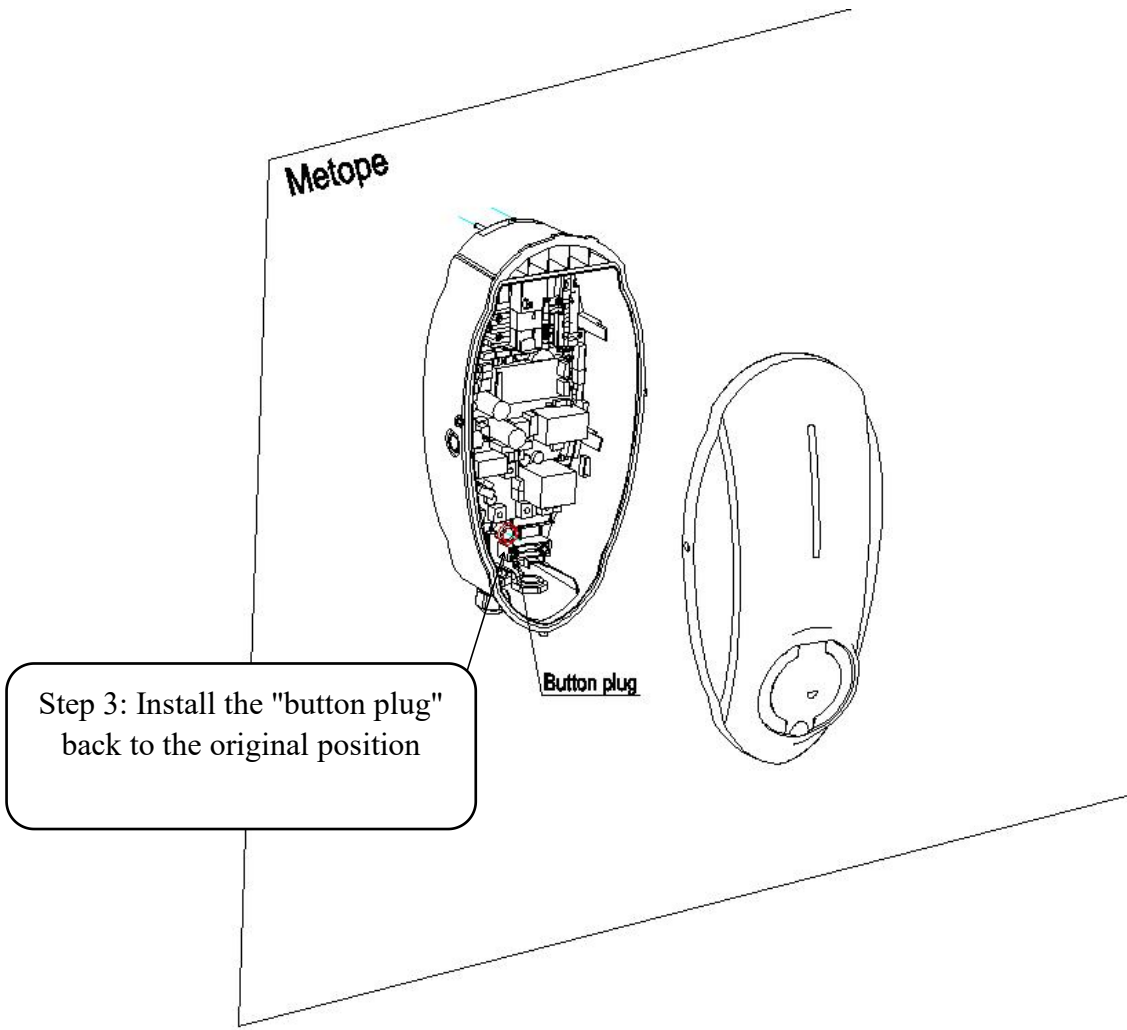

Figure 4.1-3 Wall-mounted Box Installation Drawing
Step 3: Use the two holes on the back of the box to hang the box on the cross recessed C-type ST4.2 \* 30 screws, open the cover and remove the "button plug" inside the box bottom, and then use the cross recessed C-type ST4.2 \* 30 self tapping screws (1pcs) to fix it. Be sure to install the "button plug" back to its original position, otherwise water will enter the box, as shown in Figure 4.1-3.